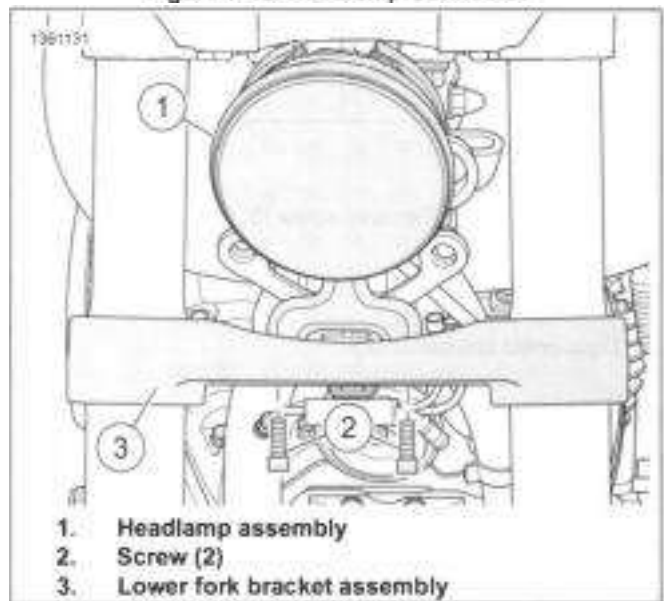

Figure 7-47. Headlamp Assembly
1. See Figure 7-47. Position headlamp assembly (1).
3. See Figure 7-47. Remove screws (2).
4. Remove headlamp assembly (1).